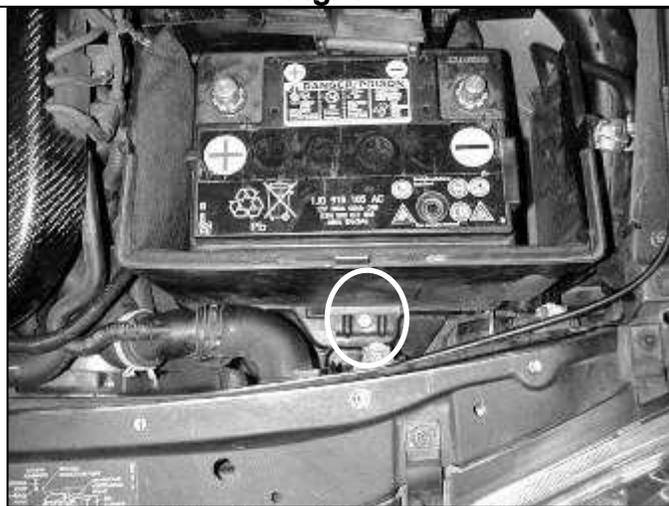

Fig. 3
- c. Remove the battery hold down bolt and remove the battery from the vehicle. (Fig. 3)